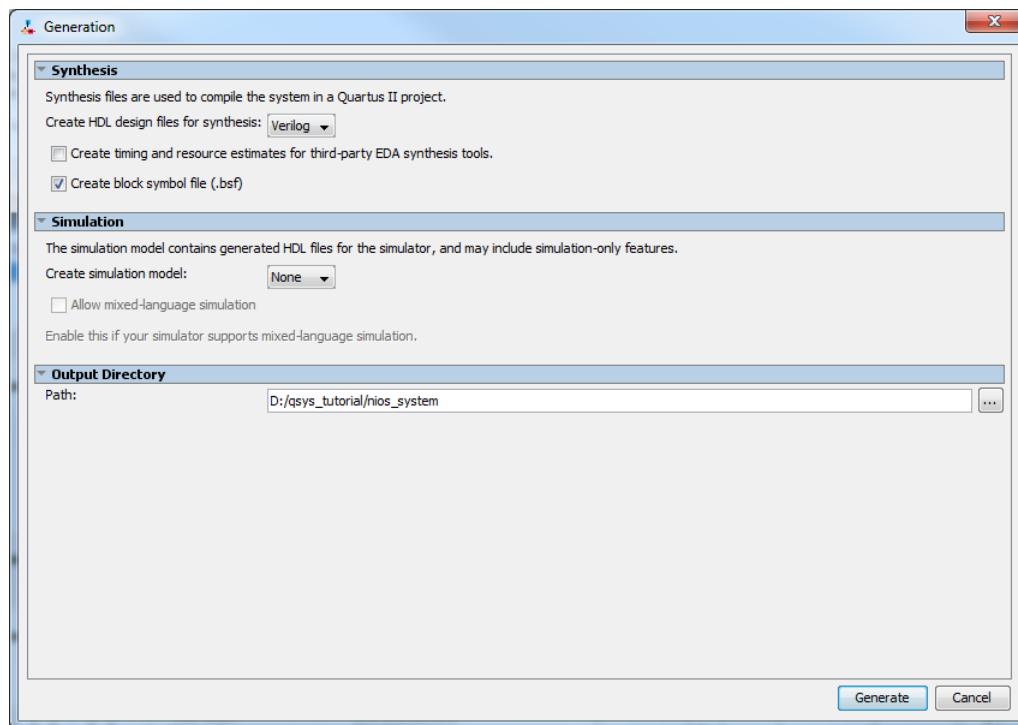

Figure 19. Generation of the system.
- Having specified all components needed to implement the desired system, it can now be generated. Save the specified system; we used the name *nios_system*. Then, select **Generate > Generate HDL**, which leads to the window in Figure 19. Select **None** for the option **Simulation > Create simulation model**, because in this tutorial we will not deal with the simulation of hardware. Click **Generate** on the bottom of the window. When successfully completed, the generation process produces the message "Generate Completed". Exit the Qsys tool to return to the main Quartus II window.